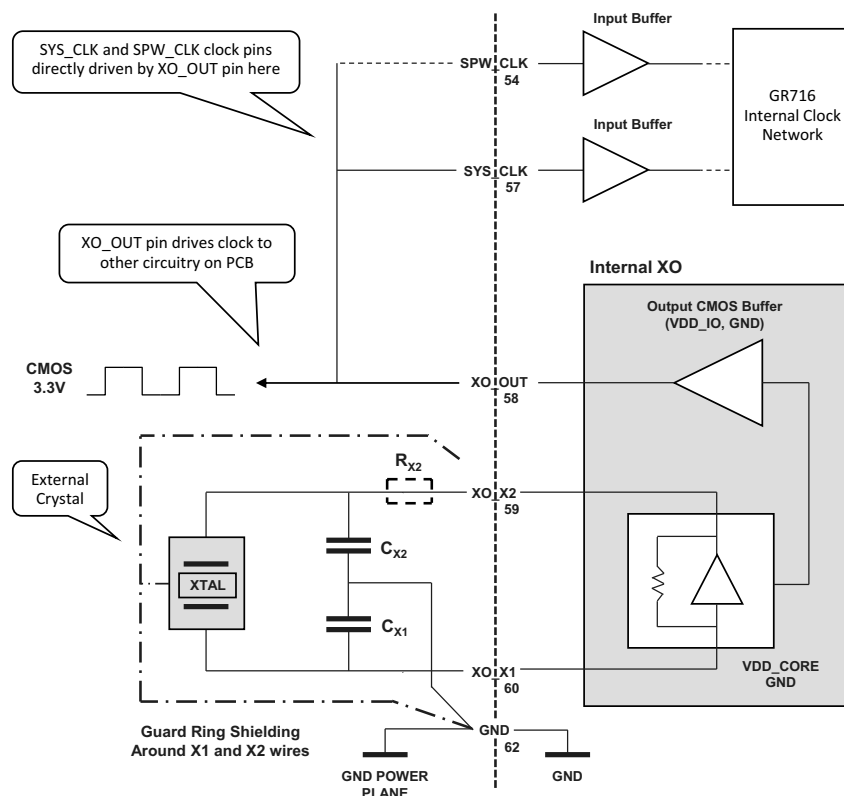

Figure 17. Connection diagram how to use the internal crystal oscillator (XO) as GR716 clock source.
- Place  $C_{X1}$  *very close* to XO\_X1 pin, and connect ground by a wire to GND pin 62 (connect by individual via to pin 62), see figure 17. In addition to acting crystal load capacitance,  $C_{X1}$  will also act as low-pass filter for this XO input for any external disturbances onto the X1 wire (which may have to be rather long in some layout implementations depending on where the crystal needs to be placed).